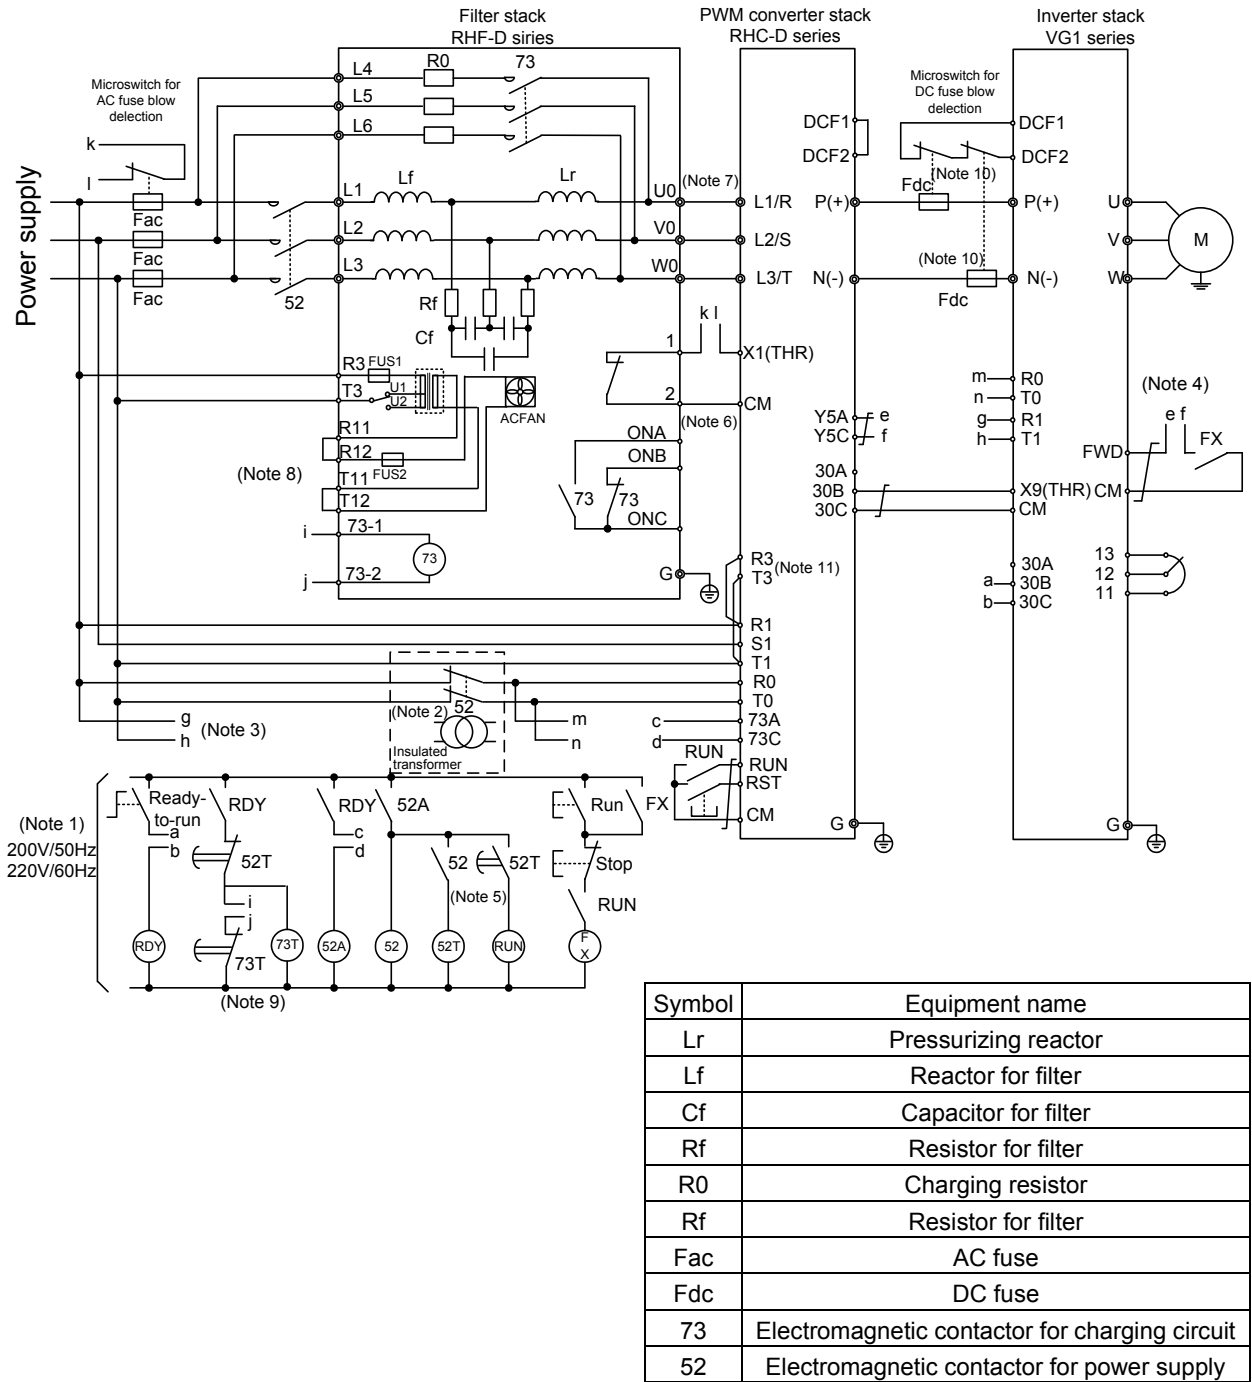

Figure 6.4.3-1: Basic connection diagram
- (Note 1) Connect a step-down transformer to ensure that the sequence circuit voltages are exactly the same as shown in the Figure 6.4.3-1.
- (Note 2) Be sure to connect the PWM converter and inverter auxiliary power input terminals (R0, T0) to the main power via contact b of the power supply electromagnetic contactor (52). When using the product with a non-grounded power supply, it is necessary to add an insulated transformer. For more information, refer to "6.3.15-(5)" in Chapter 6.